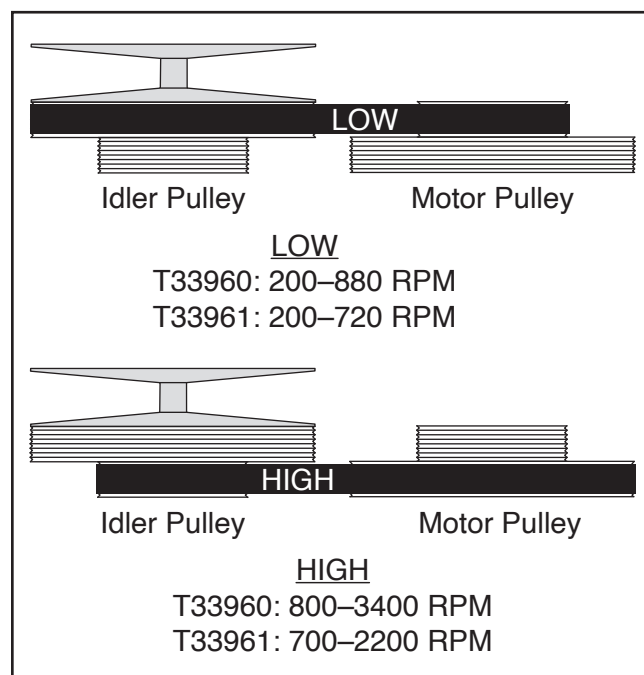

Figure 40. Belt configuration chart.
The low speed range is obtained when the drive belt is positioned on the upper pulley sheaves, and the high speed range is obtained when the drive belt is positioned on the lower pulley sheaves, as shown in **Figure 40**.
5. Open belt cover and move drive belt onto desired sheaves on motor and idler pulleys (see **Figures 40–41**).